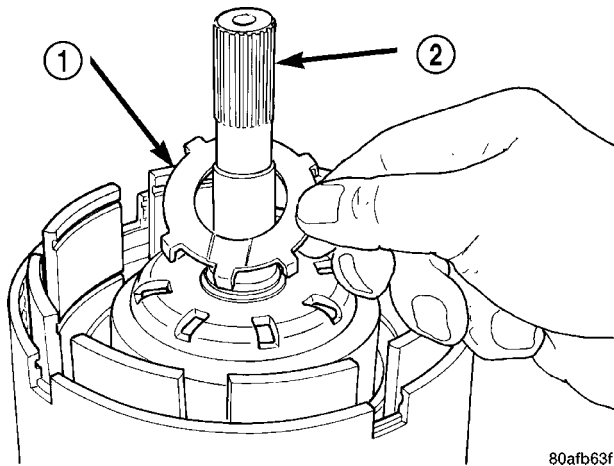

Fig. 251 Install No. 3 Thrust Washer
(39) Install the #3 thrust washer to the underdrive shaft assembly. Be sure five tabs are seated properly (Fig. 251).